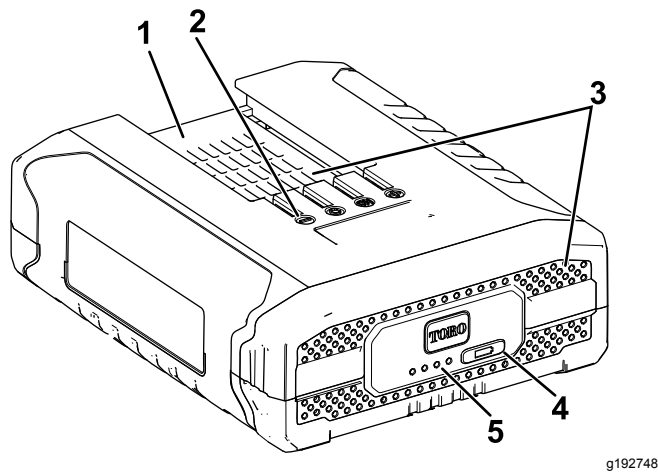

Figure 10
3. Line up the cavity in the battery pack (Figure 10) with the tongue on the charger.